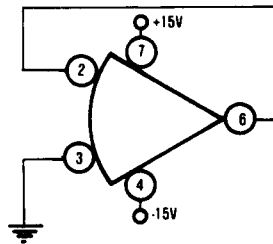

FIGURE 5. Test Circuit, Burn-in and Operating Life Test.
- (1) Test condition B
- (2) Test circuit is Figure 5 herein
- (3) TA = +125°C minimum
- (4) Test duration is 160 hours minimum
- (1) Test condition D
- (3)  $T_A = +125^\circ\text{C}$  minimum.
- (4) Test duration is 1000 hours minimum